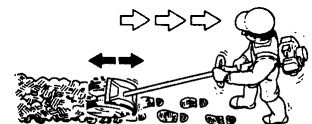
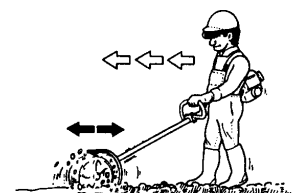

Fig. 5
Fig. 6
- a. For standard tilling. Walk forward as pulling and pushing the unit little by little like using a vacuum cleaner. (Fig. 5) When you want to erase your foot-prints, pull the unit backwards. (Fig. 6)